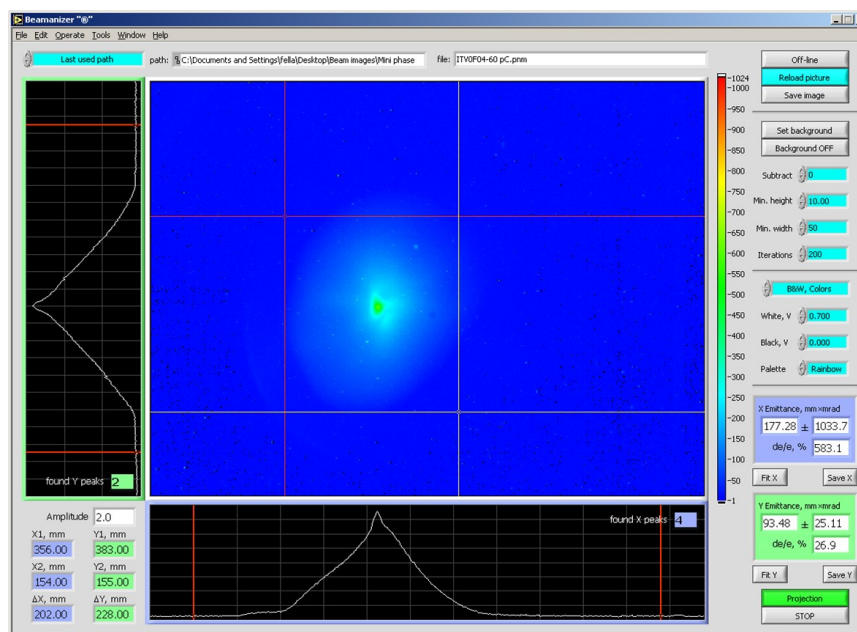

Figure 4-1: ITV0F04 as viewed with the Beamanizer.
- Take the Beamanizer on-line. The present condition of the beam at **ITV0F04** will be displayed (see Figure 4-1).